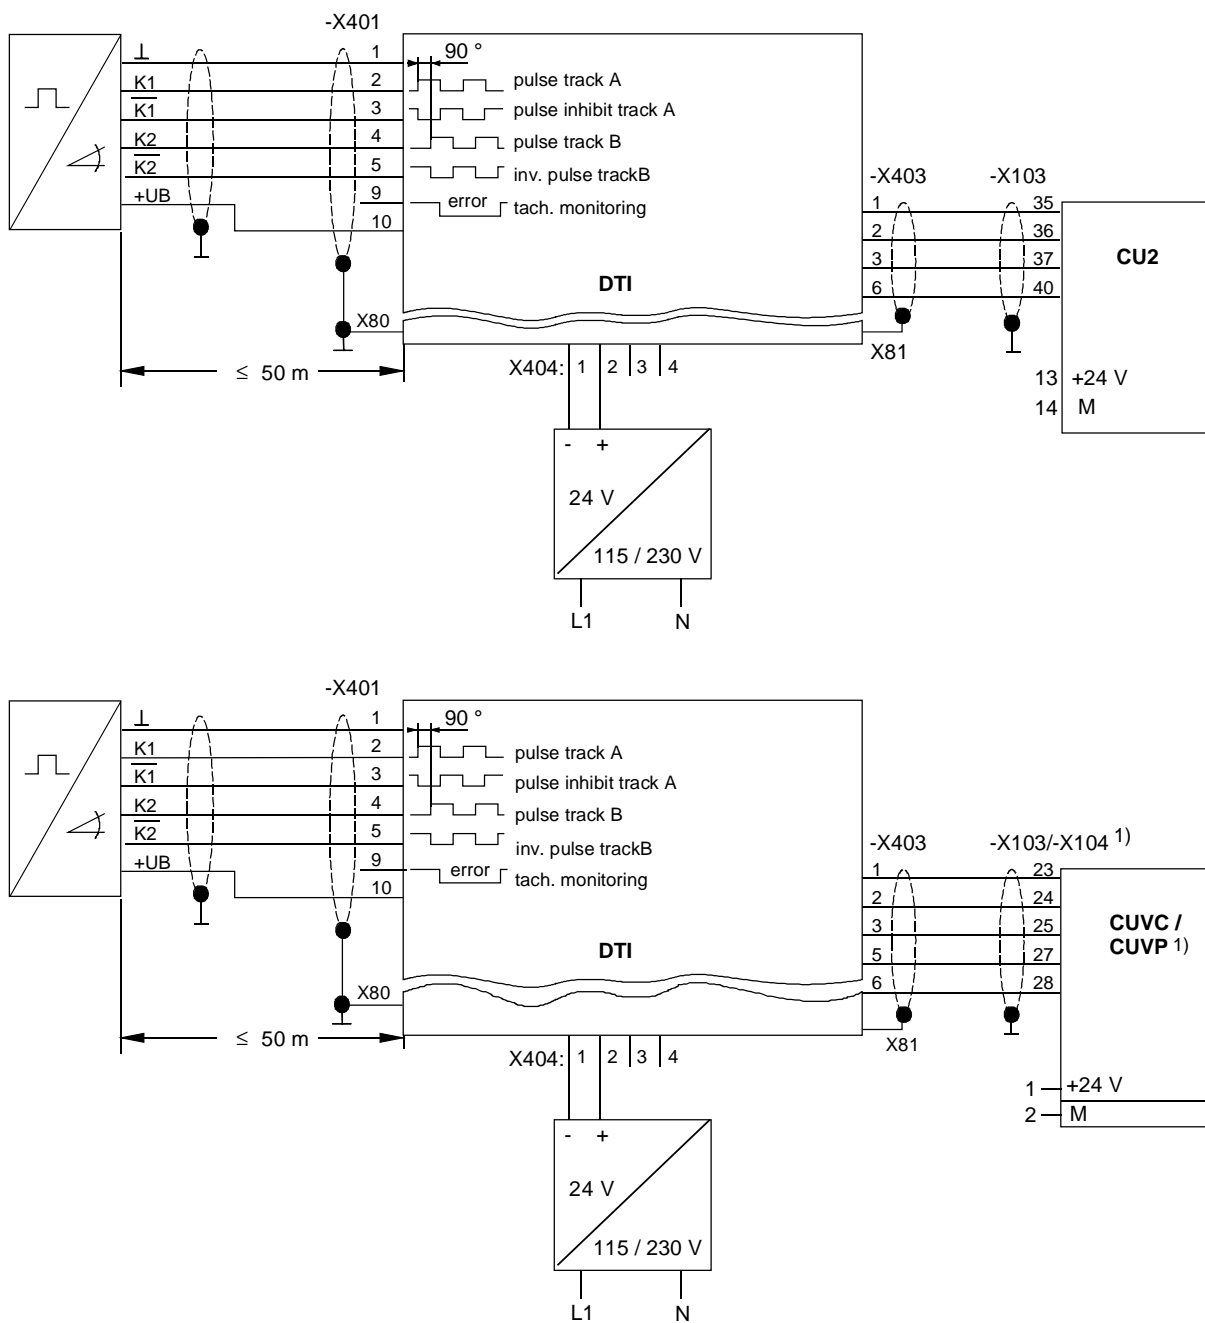

Fig. 5-1 TTL tachometer with inverted pulse track (type H0G9, Fa. Hübner Berlin) and external power supply for SIMOVERT VC
- ◆ Establish and check the connection to the converter (refer to figs. 5-1 and 5-2)